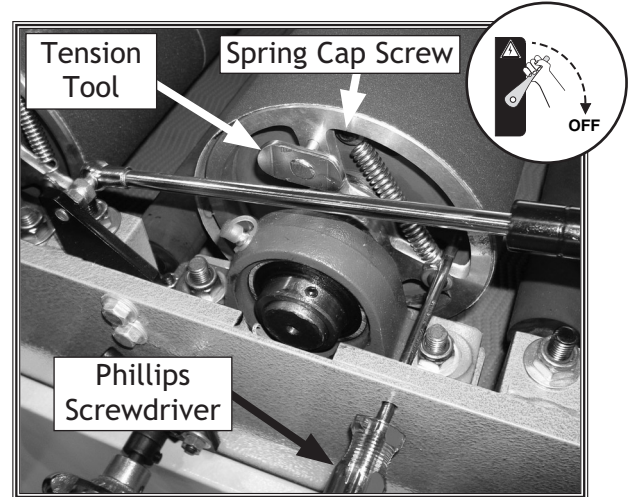

Figure 29. Locking the tension wheel.
2. Lift the top cover and place a screwdriver through the right side of the frame, as shown in **Figure 29**.
3. Rotate the sanding drum to stretch the tension spring. Fit the end of the spring tension tool shaft through the hole in the tension wheel arm (see **Figure 29**) and into the head of the cap screw securing the spring.